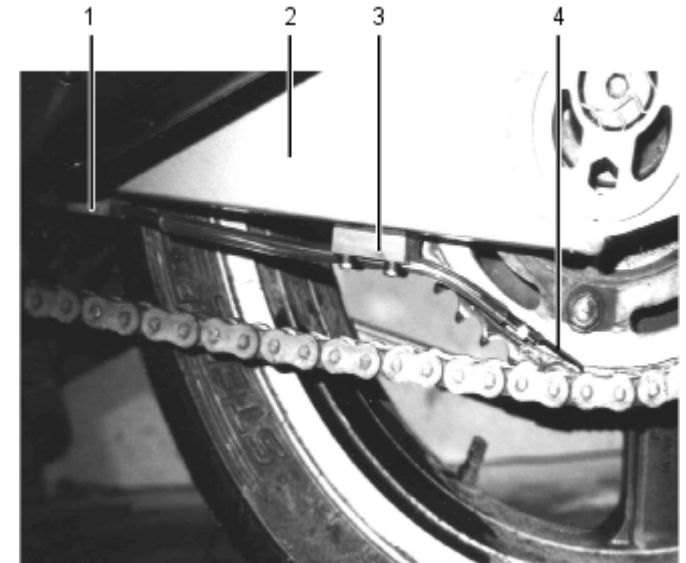

Figure 9 Fixing the Tube Endpiece
2. **Bend the tube endpiece so that the black coloured end where the lubricant flows out is slightly above the chain at the sprocket (Figure 9).**
3. After tighten the screws of the mounting block (3, Figure 9) please check and ensure that the endpiece is grinding on the rear sprocket.